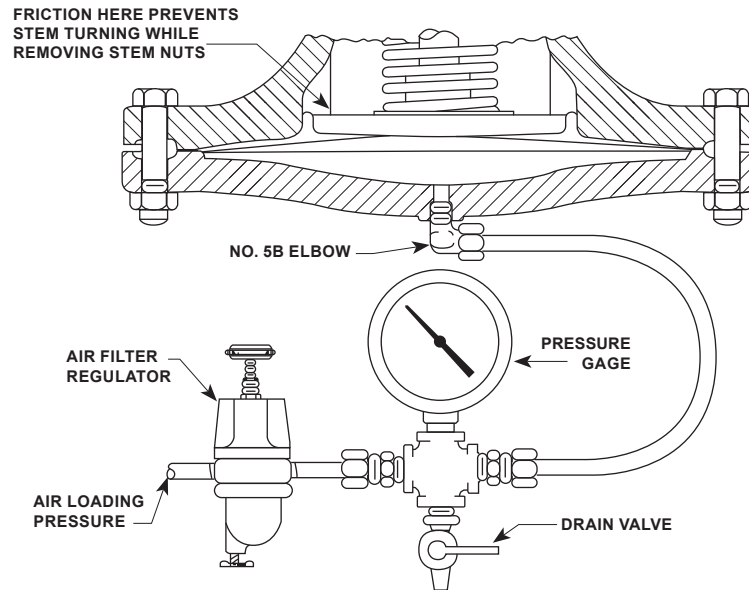

Figure 4. Air Loading Arrangement for Removing Stem Nuts
2. Attach the adjustable pressure source as shown in Figure 4. Apply about 30 psig / 2.07 bar or 10 psig / 0.69 bar for Type E2 to jack open the valve.